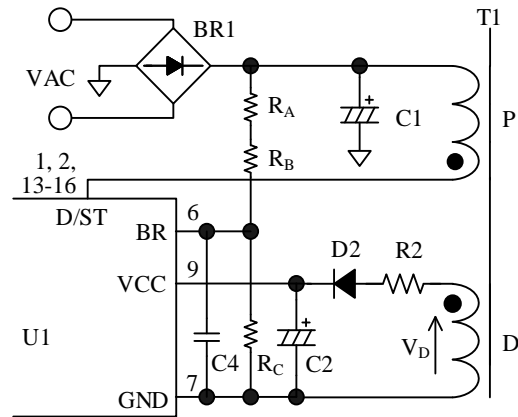
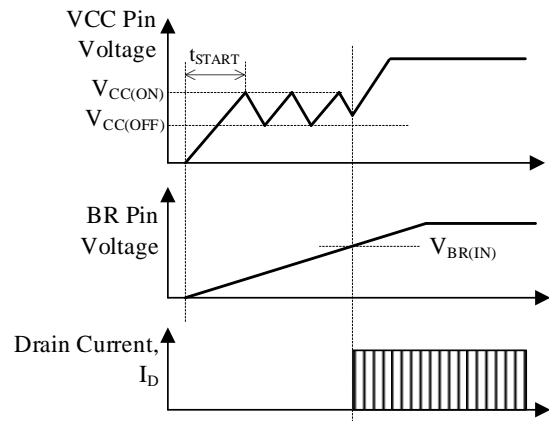

Figure 11-1. VCC Pin Peripheral Circuit
Figure 11-2. Operational Waveforms at Startup
Figure 11-1 illustrates the VCC pin and its peripheral circuit, whereas Figure 11-2 depicts operational waveforms at startup.
t_{START} is a period of time until the control circuit starts to operate (see Figure 11-2) and is determined by the capacitance of C2. The approximate startup time, t_{START} , can be calculated by Equation (1) below:
When the BR pin voltage is less than $V_{BR(IN)} = 1.11\text{ V}$, the bias assist function is disabled (see Section 11.3). Thus, the VCC pin voltage repeats fluctuating between $V_{CC(ON)}$ and $V_{CC(OFF)}$, as shown in Figure 11-2. When the BR pin voltage increases to $V_{BR(IN)}$ or more after that, the IC starts to oscillate. After the IC starts oscillating, a voltage to be applied to the VCC pin is the rectified auxiliary winding voltage, V_D , as shown in Figure 11-1. When the power startup sequence ends, the startup circuit automatically turns off to eliminate the power dissipation by itself.